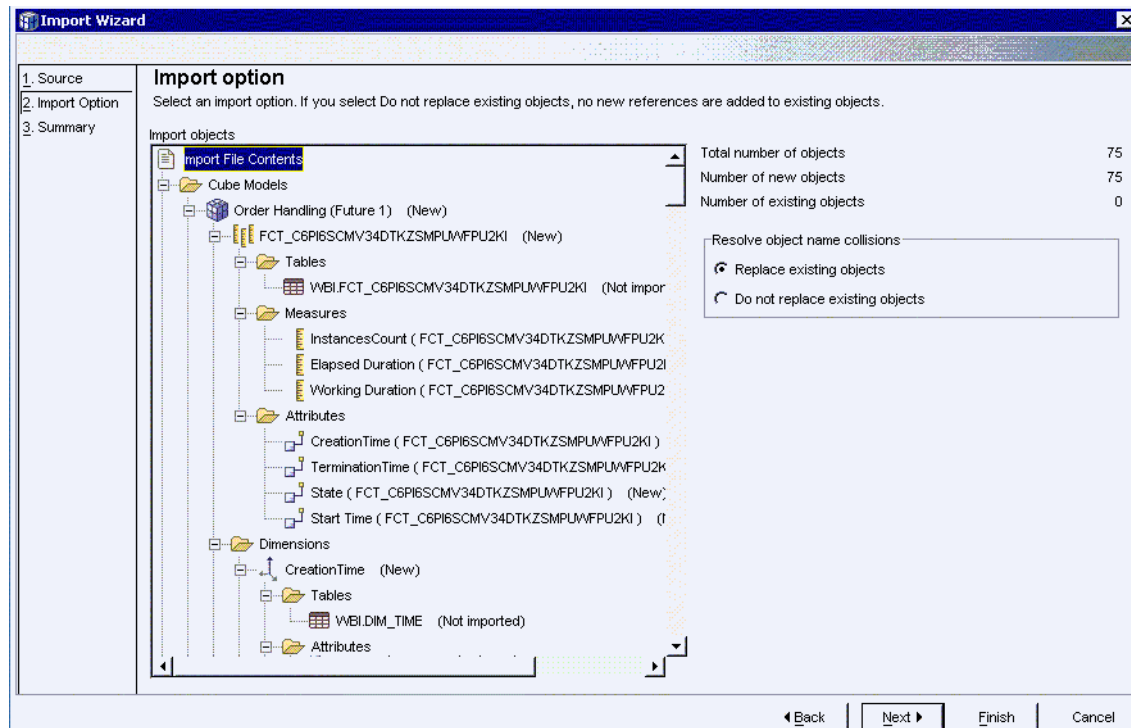

Figure 12-15 ClipsAndTacks: Order handling cube model view
- ▶ Click *Next*. When the cube models have been loaded into the OLAP center, you receive a confirmation (Figure 12-15).